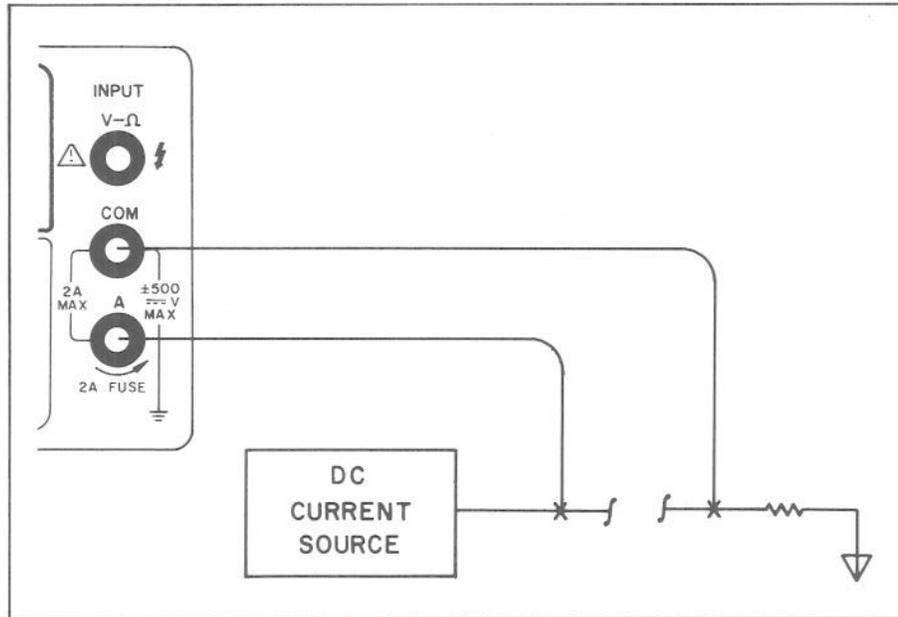

Figure 3-8. DC Current Measurements.
- Connect test leads from the Multimeter A and COM terminals in series with the current under test as shown in Figure 3-8.